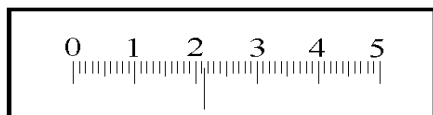

Fig. 1
E.g. 1: For the analog scale shown in Fig. 1, the reading is recorded as 2.14 ± 0.05 .